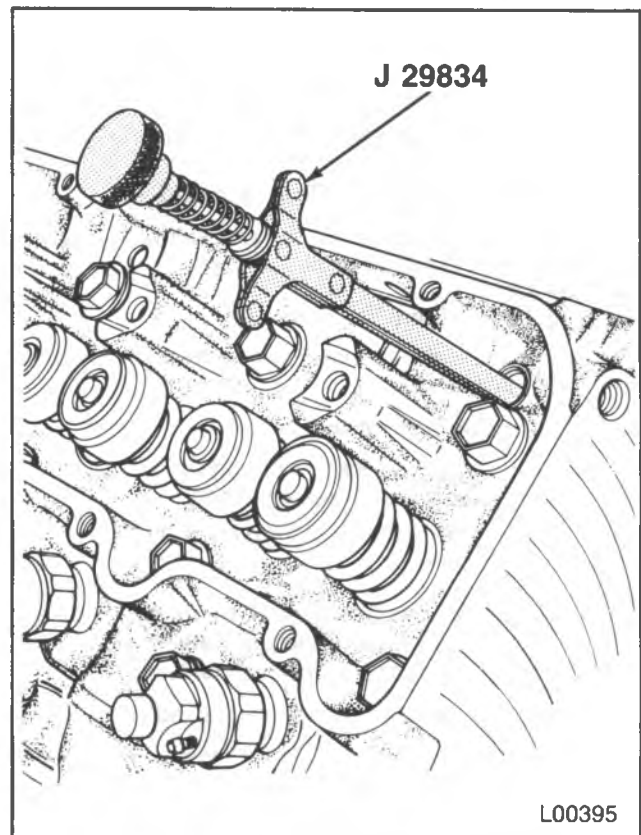

Figure 8 — Removing the Hydraulic Lifter
- Hydraulic lifters, through the access hole in the cylinder head. On R/V Models, use J 29834 (figure 8) and a magnet. Place the lifters in an organizer rack. The lifters must be installed in the same bore from which they were removed.